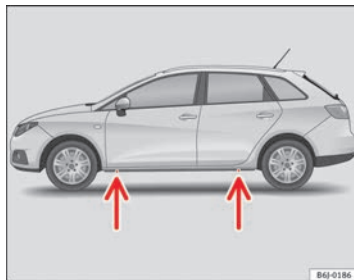

Fig. 146 Jack position points
- Locate the jacking point under the door sill closest to the wheel to be changed ⇒ Fig. 146.
Recesses at the front and rear of the door sills mark the jacking points ⇒ Fig. 146. There is only one jacking point for each wheel. Do not fit the jack anywhere else.